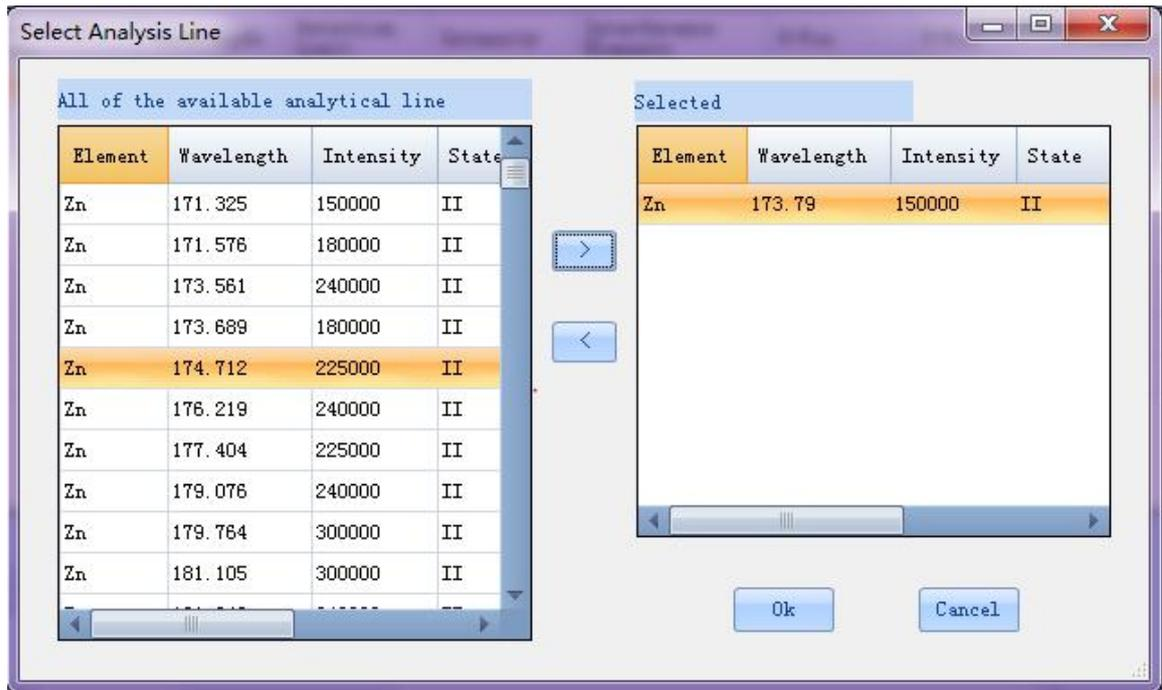

Fig.6.31
1.Add the analysis line: select the analysis line and click > to move it into the right area in the interface(Figure 6.31),click *OK*.